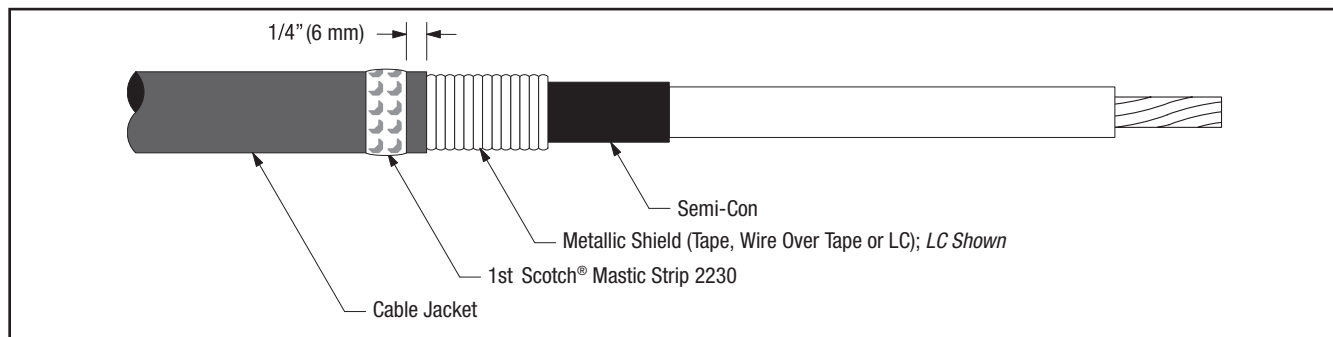

Figure 2
- 3.1 Select a Scotch® Mastic Strip 2230 from kit and remove white release liners. Using light tension, apply a SINGLE WRAP of mastic around the cable jacket 1/4" (6 mm) from cut edge (Figure 2). Cut off excess.